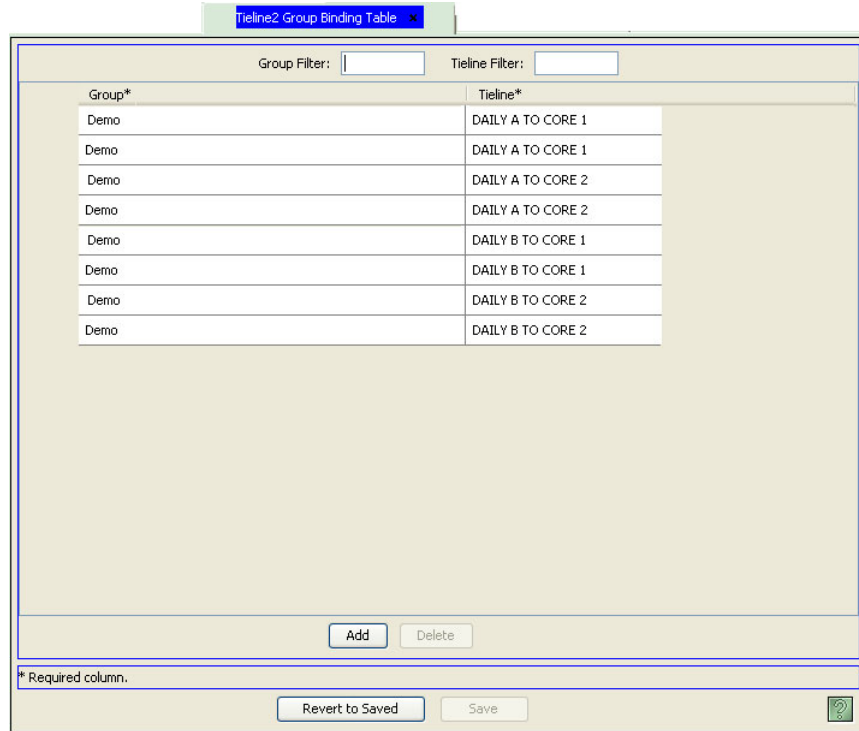

Figure 16-27. Tieline Group Binding Table
- 1 From the Navigation area, select the 'Views' pane and then 'Tieline Group Binding'. The 'Tieline Group Binding' table appears, as shown in Figure 16-27.